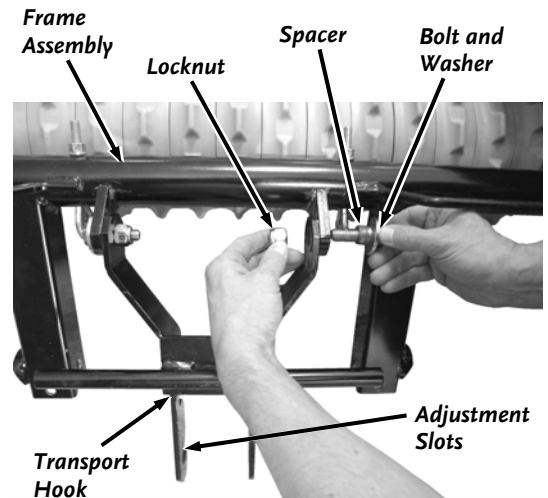

Figure 18
1. Position the Hook Assembly with the Adjustment Slots facing down and line up the mounting holes with the Frame Assembly (**Figure 18**).